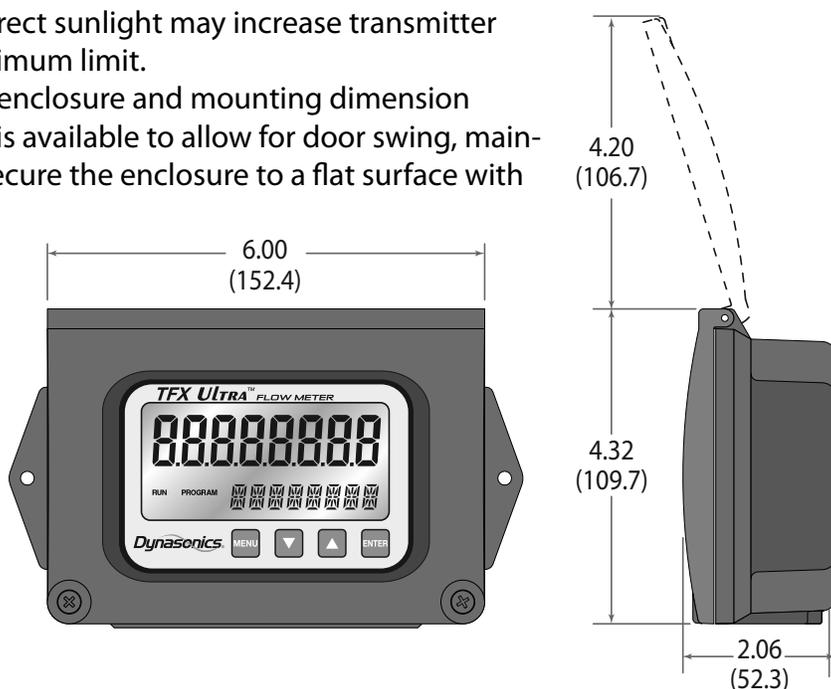

FIGURE 1.2 - TFX TRANSMITTER DIMENSIONS
- 3) Mounting - Refer to **Figure 1.2** for enclosure and mounting dimension details. Ensure that enough room is available to allow for door swing, maintenance and conduit entrances. Secure the enclosure to a flat surface with two appropriate fasteners.